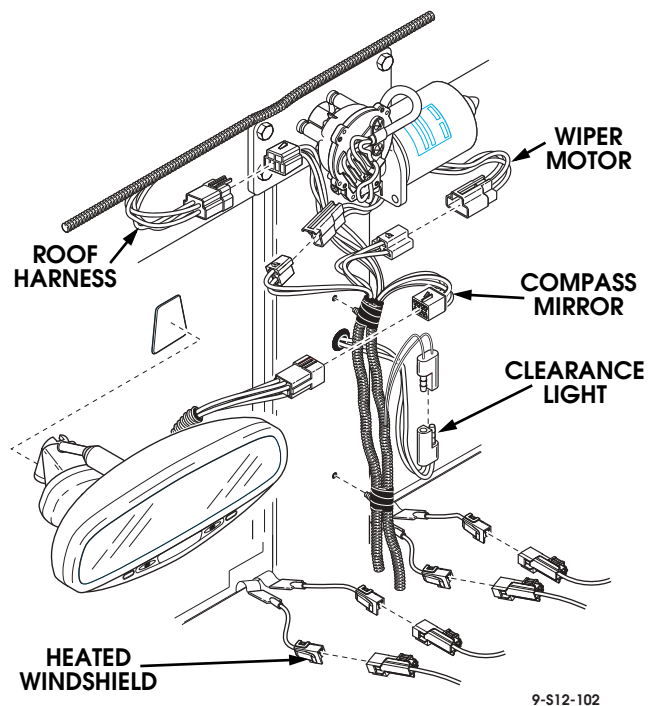

Figure 10-104: Wiring Harness Lead Location
6. Disconnect roof harness, wiper motor, heated windshield, clearance light and compass mirror connections at center pillar and pull harness loose from windshield center pillar (Figure 10-104).
4. Connect two jumper harness leads to body harness leads and insert grommet into windshield center pillar (Figure 10-104).